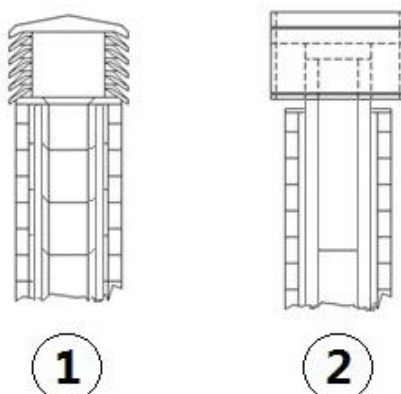

Fig. 4 - Anti-wind chimney pots
- We recommend using an anti-wind chimney pot, see **Fig. 4 page 6**.
- External chimney flue entirely made up of insulated stainless steel pipes, i.e. with double wall of minimum  $\varnothing 150$  mm: all must be firmly attached to the wall. For chimney against wind effects please (see Fig. 4 page 6).